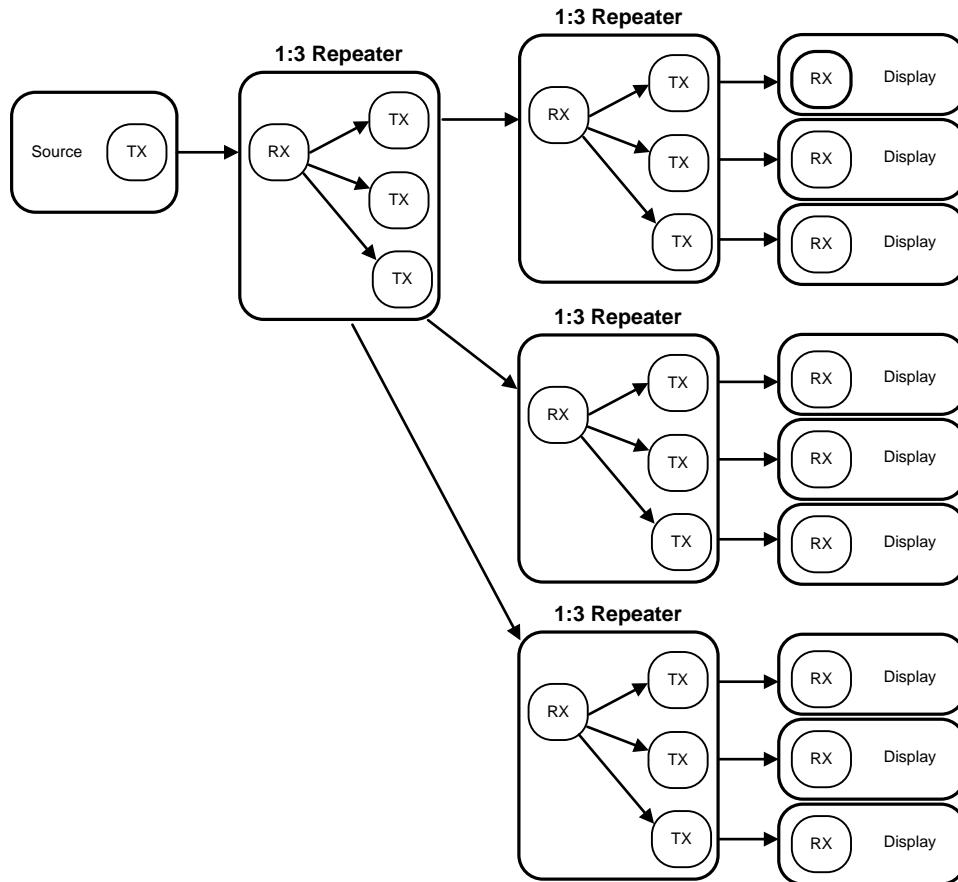

Figure 24. Maximum Repeater Application
In the repeater application, this document refers to the DS90UB947-Q1 Serializer or as the Transmitter (TX), and refers to the DS90UB948-Q1 as the Receiver (RX). Figure 24 shows the maximum configuration supported for Repeater implementations. Two levels of Repeaters are supported with a maximum of three Transmitters per Receiver.